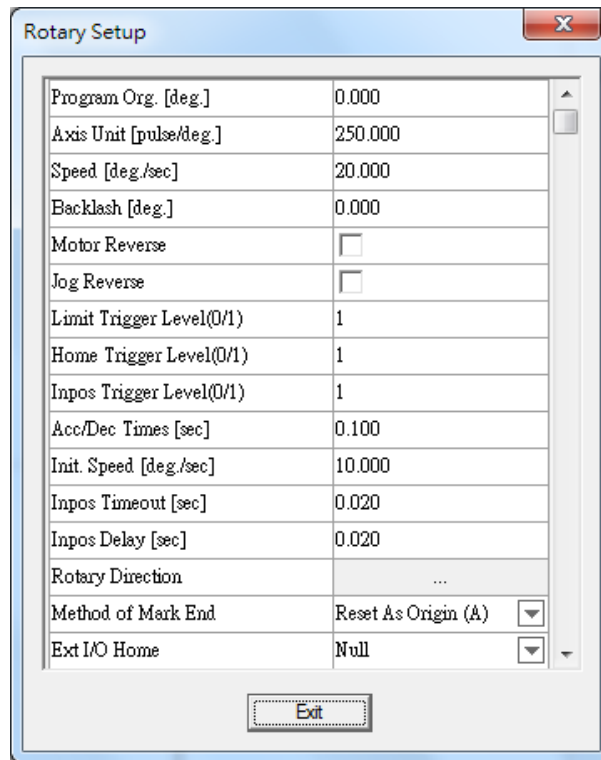

Fig. 1.7.38
7. Click “SETUP...” and do more detail settings, see Fig.1.7.38.